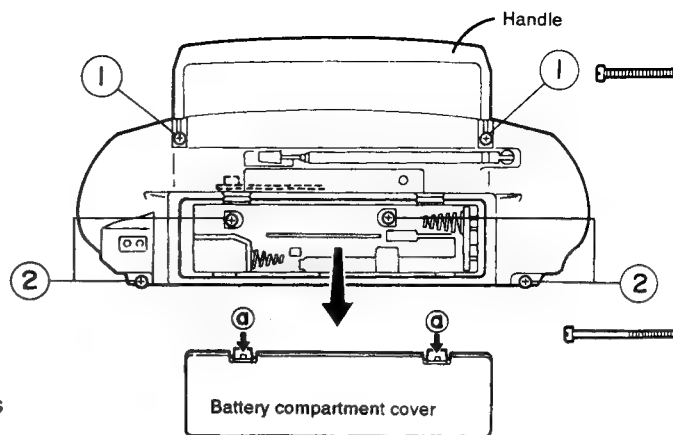

Fig. 2-1
(Figs. 2-1 to 2-4)
1. At the rear of the main unit, press the two claws (a) of the battery compartment cover downward to remove the battery cover (Fig. 2-1).
2. Remove the two handle mounting screws (1) and the four rear cabinet mounting screws (2). Then remove the front and rear cabinet assemblies (Fig. 2-1).